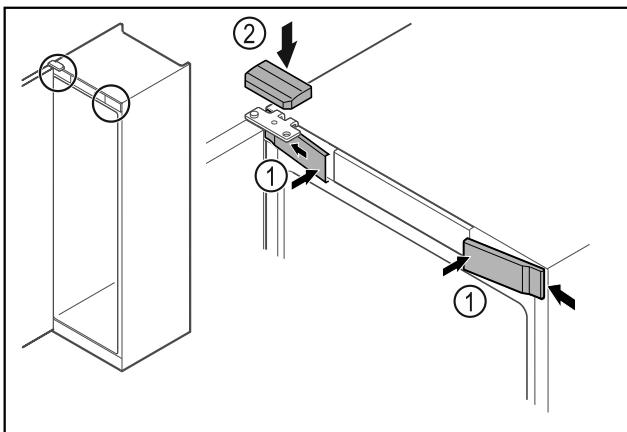

Fig. 58
- ▶ Hook in the front covers Fig. 58 (1) on the side and snap them into place.
- ▶ Snap on the top cover Fig. 58 (2) from above.